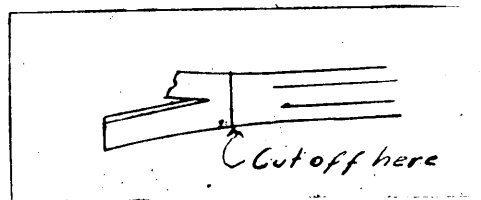

Figure 6.
1. In case one or both jaws are broken off, heat the bar and cut off as shown in Figure 6.